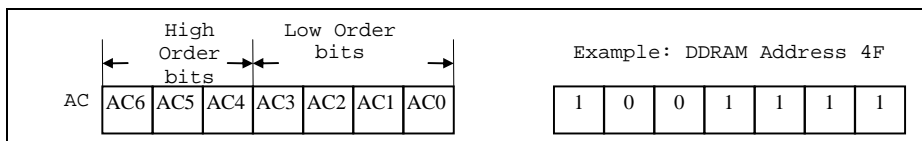

Figure 1 DDRAM Address
DDRAM stores display data of maximum 80 x 8 bits (80 characters). DDRAM address is set in the address counter (AC) as a hexadecimal number. (Refer to Figure 1.)